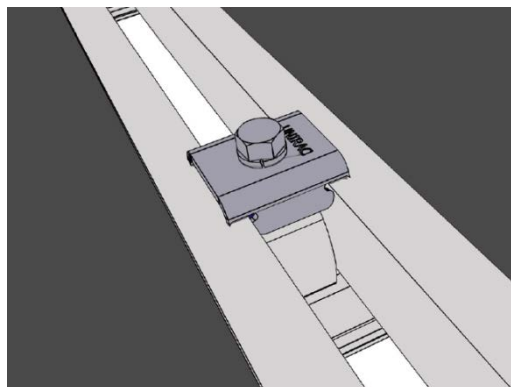

Figure 6B: Illustration of Unirac Solar Mount Evolution Middle Clamp
- 2) Affix the clamps to the mounting structure using stainless steel bolts and nuts. Refer to Figure 6B for one possible example.